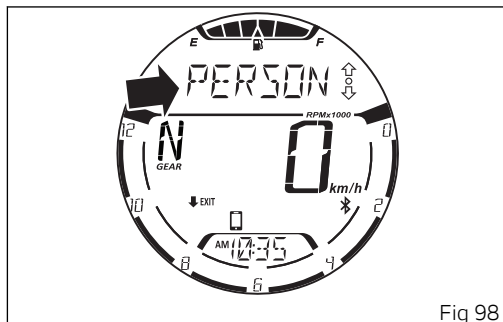

Fig 98
To display the list of calls, press button (4). When accessing this function, the display will show the name or number of the last call (Fig 98).